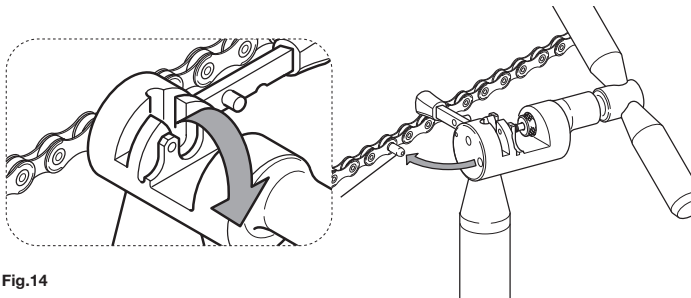

Fig.14
- Insert the protruding part of the guide into the hole provided at the base of the tool and split it by bending (**Fig. 14**). The terminal part of the split guide must always remain inside the bushing.